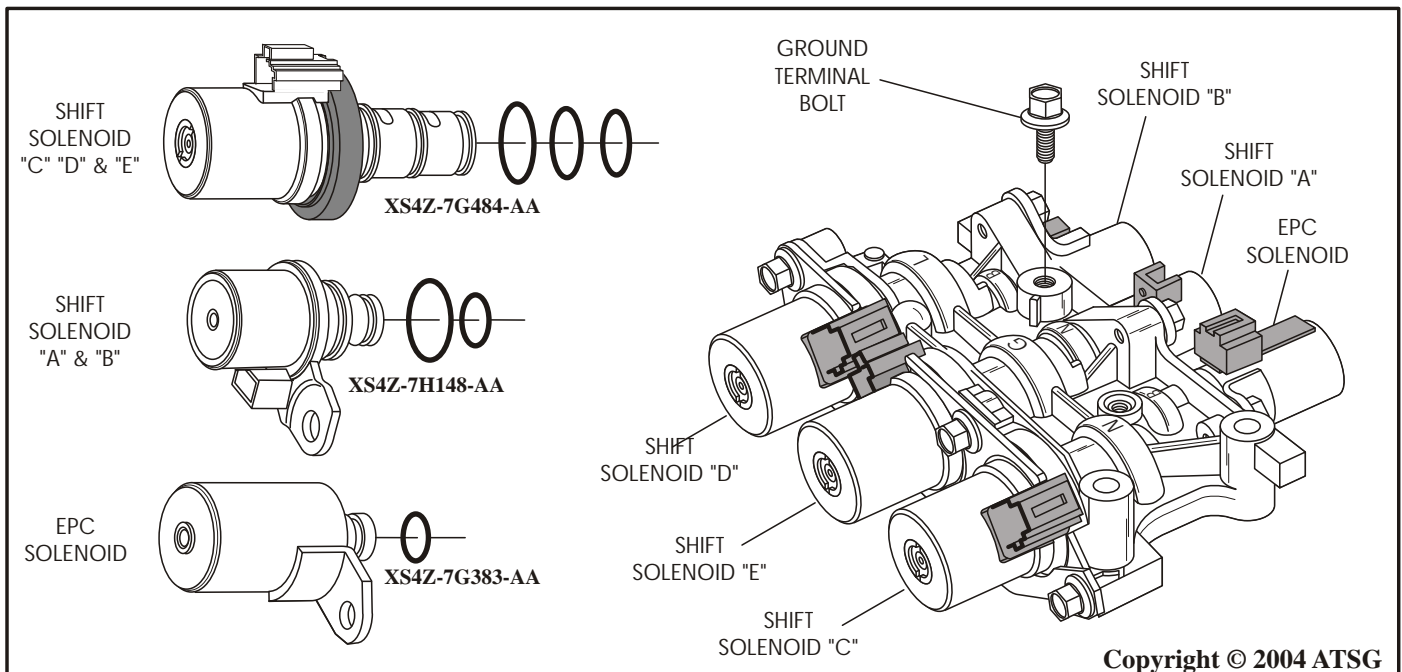

Figure 104
4. There are three different styles of solenoids in this solenoid body. The locations and styles are identified in Figure 104, along with their OEM part numbers.
6. Install new "O" rings on each of the solenoids, as shown in Figure 104, and lubricate with a very small amount of Trans-Jel®.
7. Install the solenoids in their proper positions, as shown in Figure 104, and install retaining brackets and bolts. (See Figure 101).
9. Install the ground terminal retaining bolt for shift solenoids "C", "D" and "E", finger tight at this time (See Figure 104).